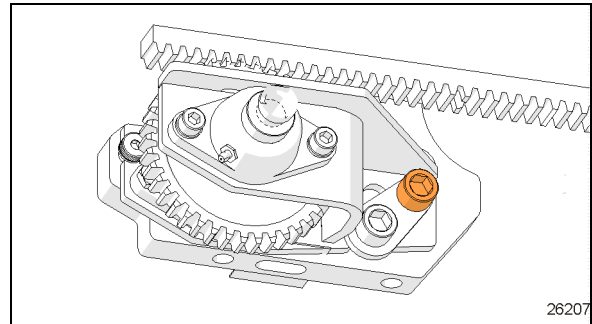
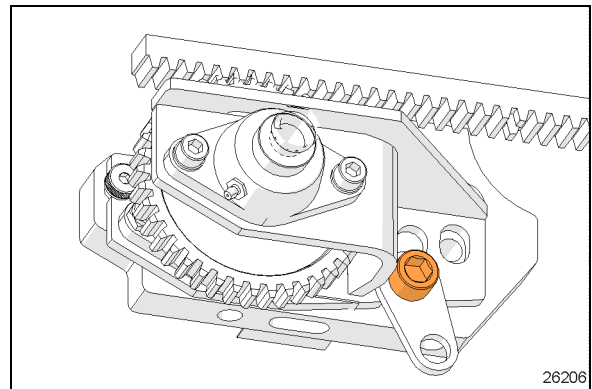

FIGURE 35: REMOVE UPPER SCREW
FIGURE 36: LOWER SCREW, TENSION RELIEVED
1. Remove upper screw as shown in Figure 35
2. Slightly unscrew the lower screw to remove tension on tab. (Figure 36)
5. Unscrew and remove the top pillow block mounting screws (7). Keep hardware.
6. Pull shaft (1) out
7. Remove old pinion gear (3). If key is damaged, replace with new.
8. On shaft (1), install thrust bushing (6), key (5), new pinion (3) and thrust washers (4).
9. Push shaft through bottom locking collar (2) and bottom pillow bearing until the shaft end contacts the bottom mounting plate.
10. Maintain shaft in contact with plate and lock bottom collar (2).
11. Using a drift and hammer, tension the eccentric locking collar (2) by means of one or two strong blows. There is a cavity on the collar made for that purpose.
15. On the pinion assembly, tighten upper and lower screws (Figure 35, Figure 36) to: